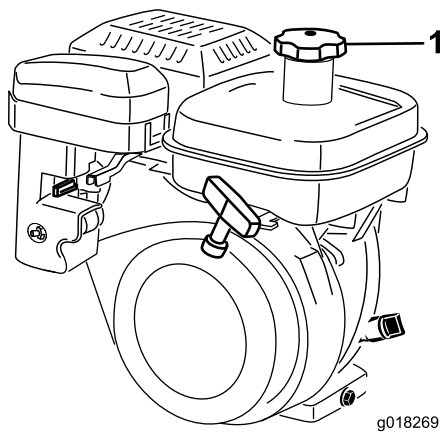

Figure 25
1. Clean around the fuel-tank cap and remove the cap from the tank (Figure 25). Using unleaded gasoline, fill the fuel tank no higher than to the bottom of the filter screen. Do not overfill.